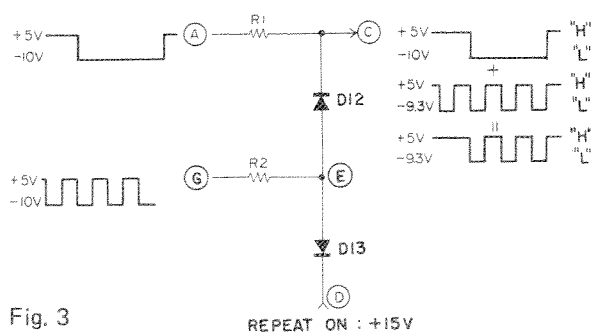

Fig. 3
Now, with reference to Fig. 3, no current will flow as the potential of Point (G) will be lower than that at Point (D). As a result, the voltage of Point (G) appears at Point (E). The voltage of Point (G) will appear at Point (C), with its value reduced by a degree equivalent to the forward voltage of D12. Consequently, the variations of (A) and (G) will be mixed at Point (C). This circuit functions as positive enabled OR logic.